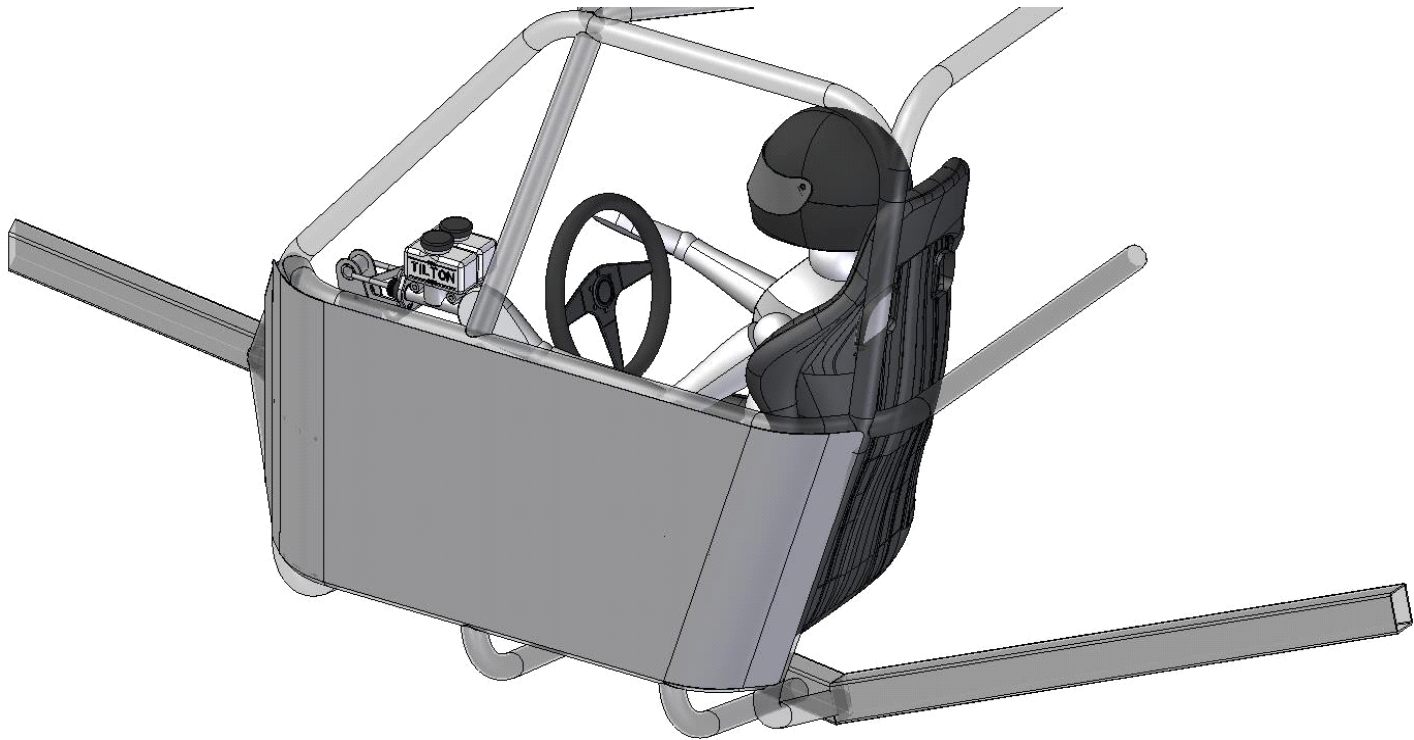

Figure 7 DRIVER DOOR BAR COVERING
- Driver's side door bars must be covered with a minimum of .125-inch steel plate bolted on, using a minimum of 3/8" bolts on 6" centers. See diagram on FIG 7.
- Under driver Floor Plate: .125" thick steel or .250" 6061-T6 aluminum plate bolted every six (6) inches with 3/8 bolts. Plate must cover entire floor opening from front fire wall to back firewall side tube to side tube of driver's compartment. Plate must extend to centerline of all floor tubes. Mounting tabs must be made of .090 thicksteel.
- Mud flaps are required and must extend from 6 inches above center line of rear axle to 3 inches from ground at ride height. See diagram on FIG 7